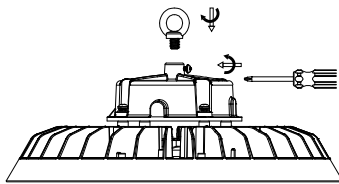

Figure 1
① Screw the hook into the fixture. tighten and fix it(Figure1)